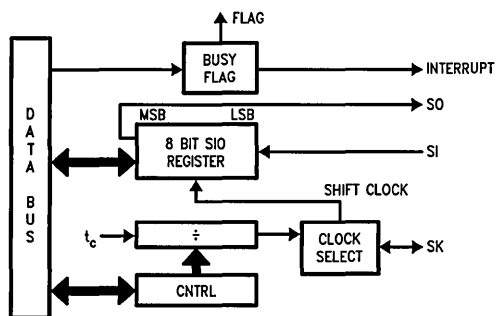

FIGURE 12. MICROWIRE/PLUS Block Diagram
MICROWIRE/PLUS is a serial synchronous communications interface. The MICROWIRE/PLUS capability enables the COP888CL to interface with any of National Semiconductor's MICROWIRE peripherals (i.e. A/D converters, display drivers, E²PROMs etc.) and with other microcontrollers which support the MICROWIRE interface. It consists of an 8-bit serial shift register (SIO) with serial data input (SI), serial data output (SO) and serial shift clock (SK). Figure 12 shows a block diagram of the MICROWIRE logic.